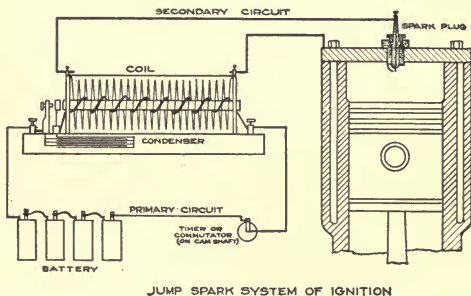

FIG. 136.
96. Simple Battery Ignition System.—The jump-spark or high-tension system of ignition is so named because a high tension current is caused to jump across the gap between the terminals of the spark plug in the cylinder. Figure 136 shows an elementary battery jump-spark ignition system for a one-cylinder engine. Four dry cells are shown connected in series giving a voltage of about 6 and a current of about 20 amp. One terminal of the battery set is connected to the left terminal of the induction or spark